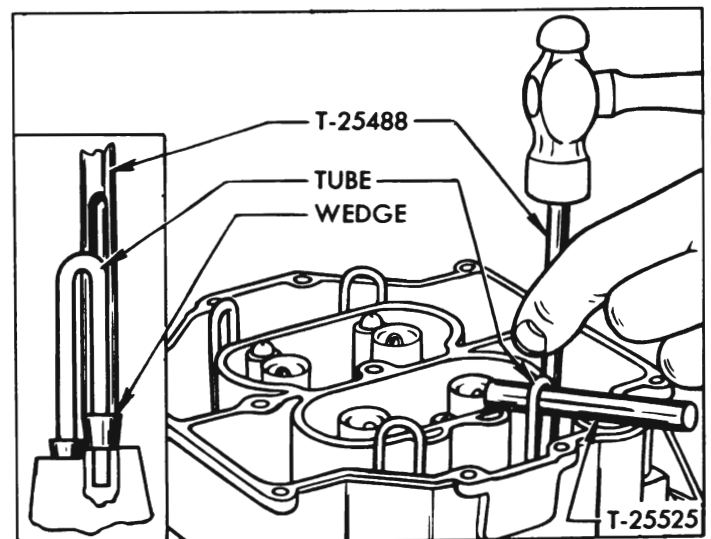

Figure 3-91—Installing Idle Tube
(1) Place Tool T-25525 on top surface of main body with flat sides vertical and place the idle tube with wedges in position over the tool. See figure 3-91. Make certain that the small diameter end of idle tube is in the hole directly above the main discharge jet passage.
(2) While holding the loop of idle tube down against Tool T-25525, slide wedges down into their respective holes and seat them snugly with Wedge Driver T-25488 and a light hammer. See figure 3-91.